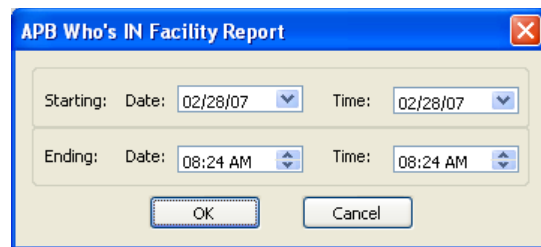

Figure 59
- To view the APB Who's In report, click the APB REPORT button. The APB Who's In Facility Report window will appear (Fig 59). Enter the starting date / time and ending date / time that you want the report for, then click OK.